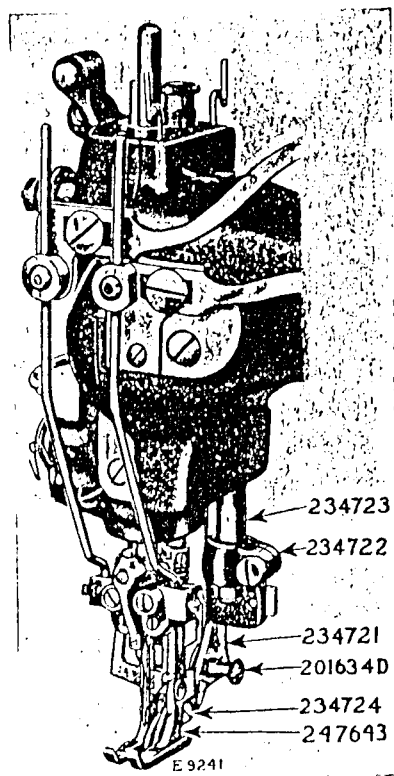
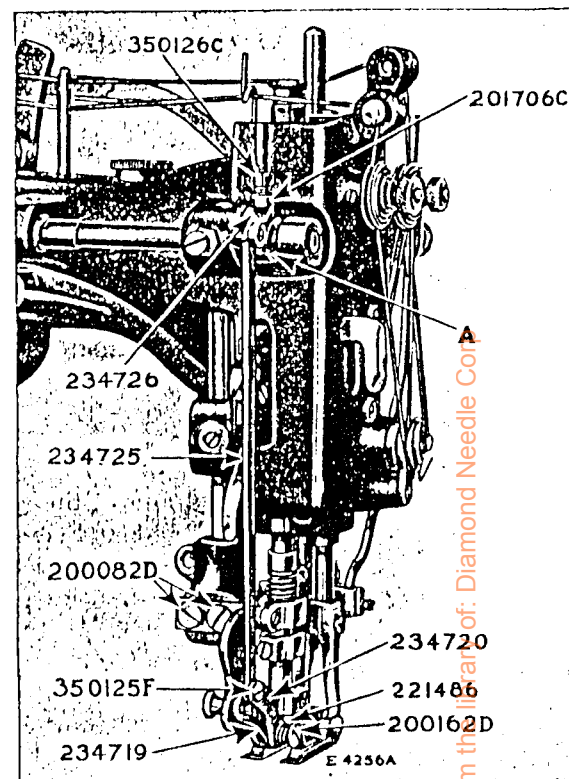
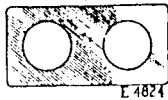

Fig. 20
Fig. 21
Fig. 22
1. Remove the regular Presser Foot and Presser Bar Guide from the machine and fasten the Presser Bar Guide and Support 234723, Fig. 20, and Presser Foot 247643, Fig. 20, in position on the machine as shown in Fig. 20.
3. Place Picot Edge Cutting Blade Arm Bracket 234722, Fig. 20, in position on Presser Bar Guide 234723, Fig. 20.
5. Place the Attachment (with Thumb Nut 201634D, Fig. 20, at the back end of slot) in position by inserting the Knives in between the Presser Foot Shoes, and fasten the Attachment on the Arm Bracket 234722, Fig. 20, with the two screws 200082D, Fig. 21.
6. Loosen the Pinch Screw in the Arm Bracket and raise the Attachment on the Presser Bar Guide until the center of the Knife Fulcrum Stud 234724, Fig. 20, is $\frac{7}{16}$ " above the top of the Throat Plate. Place a scale or straight edge across Attachment Arm 234721, Fig. 20, from front to back, and line up parallel with the presser foot, the cutting edges of the knives to be in line with the center of the Piercer, then tighten the Pinch Screw.
7. Remove the Set Screw in the Rock Shaft Collar (A, Fig. 21).
8. Place the Operating Lever 234726, Fig. 21, in position on the Rock Shaft Collar (A), using Screw 350126c, Fig. 21, in place of Set Screw and Check Nut 201706c, Fig. 21, to hold the Lever and Rock Shaft Collar in position.
10. Fasten the Operating Lever with the Screw and Nut, using care to have the point of the upper Knife Blade 234720, Fig. 21, just above the Throat Plate.
11. Loosen the Thumb Nut 201634d, Fig. 20, and pull it forward until the point of the lower Knife Blade 234719, Fig. 21, rests on the Throat Plate, then tighten the Thumb Nut. The point of the knife should be just back of the needle hole.
The knives should not cut into the first bar back of the needles as this bar is required to hold the fabric in forming the hemstitch. If the knives cut into the first bar, which may occur when using a long stitch, there are two shims 234735 (Fig. 22) which have been provided to insert between 234721 and 234722 (Fig. 20) to position the knives further back so that they will cut the second bar only.
13. When it is desired to do straight hemstitching with the Attachment in place, loosen Thumb Nut 201634d, Fig. 20, and push it to the back end of the slot, then tighten it. This will raise the lower knife so as to permit the fabric to pass under it.
Remove the Cap Screw 200162d, Fig. 21, together with Spring 221486, Fig. 21, and Hinge Screw 350125f, Fig. 21, push back the knife blade Hinge Stud 234724, Fig. 20; both knife blades can then be easily removed or replaced.